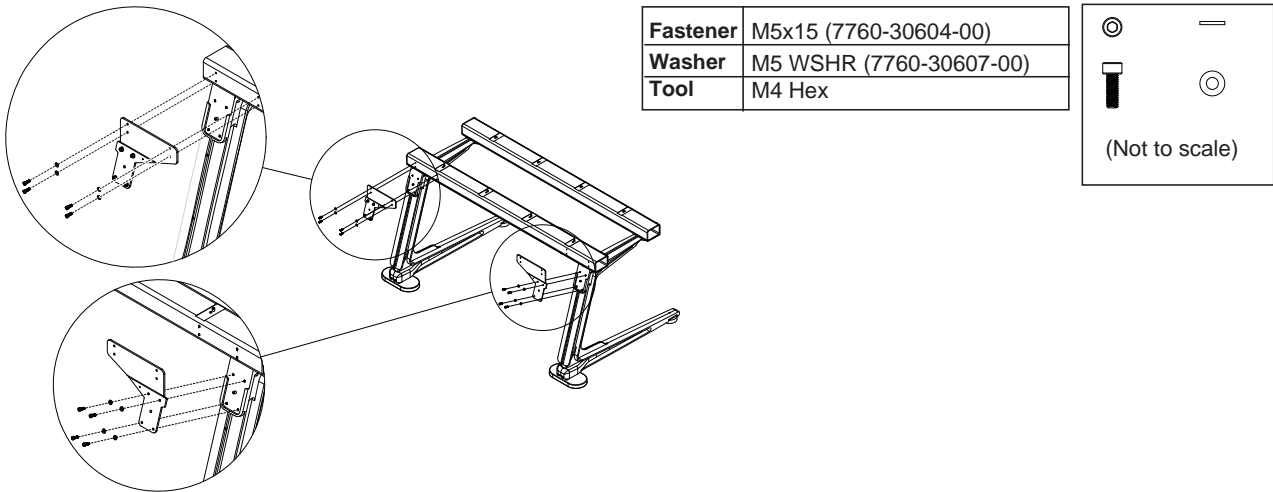

Figure 21. Removing the Back Corner Brackets from legs (lower left) and from beams (upper left)
- Detach the Back Corner Brackets from the legs (see Figure 21) by removing the four fasteners and washers per bracket.